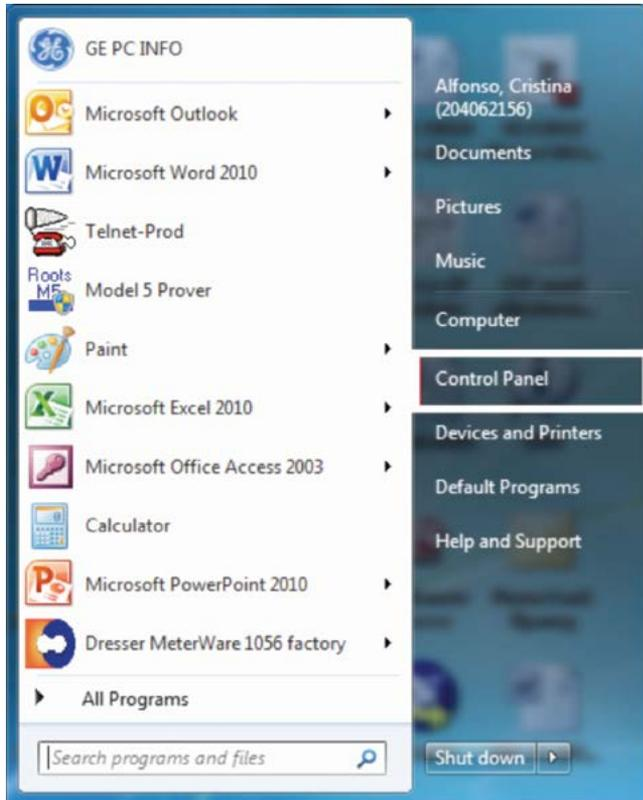

Figure 22: Control Panel
1. On Windows 7 computers, open the Control Panel as shown in **Figure 22**.